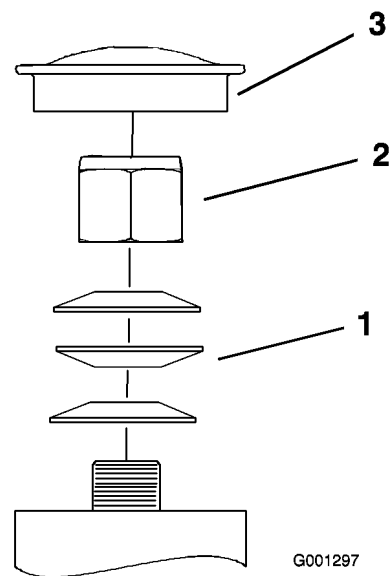

Figure 46
- Remove the dust cap from caster and tighten lock nut (Figure 46).
- Tighten the locknut until the spring washers are flat and then back off a 1/4 turn to properly set the pre-load on the bearings (Figure 46).
Important: Make sure spring washers are installed correctly as shown in Figure 46.
- Install the dust cap (Figure 46).